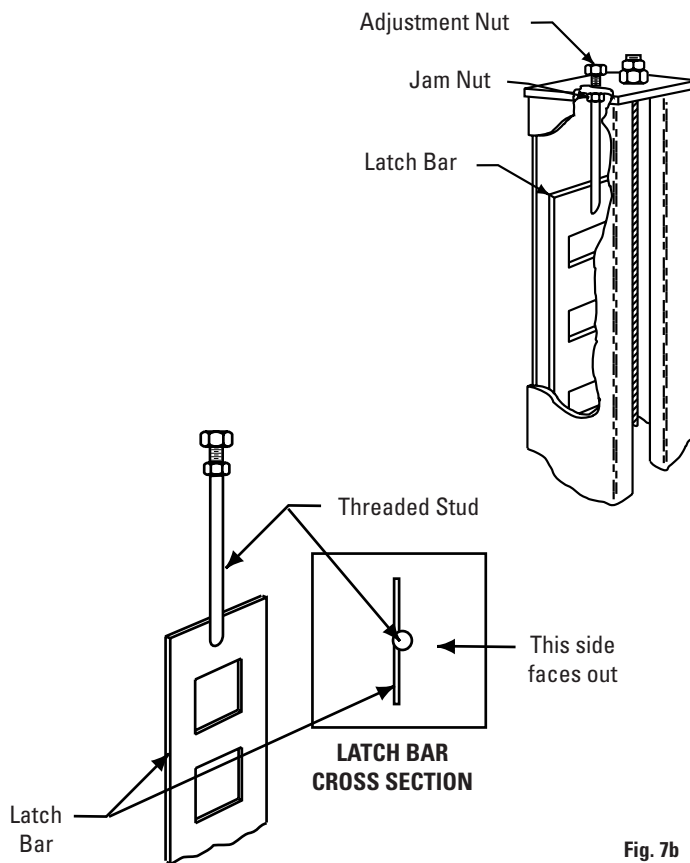

Fig. 7b
- B. Thread the jam nut down the threaded stud of the latch bar as far as possible. Attach rubber bumper to latch bar, see Fig. 8. Place the latch bar into the back of the column. The latch bar is offset from the center line of the threaded stud. The latch bar should be oriented toward the back of the column from center line of the threaded stud, Fig. 7b. Thread the adjustment nut down the threaded stud until the nut and top plate are flush, Fig. 7a. Repeat for other columns.